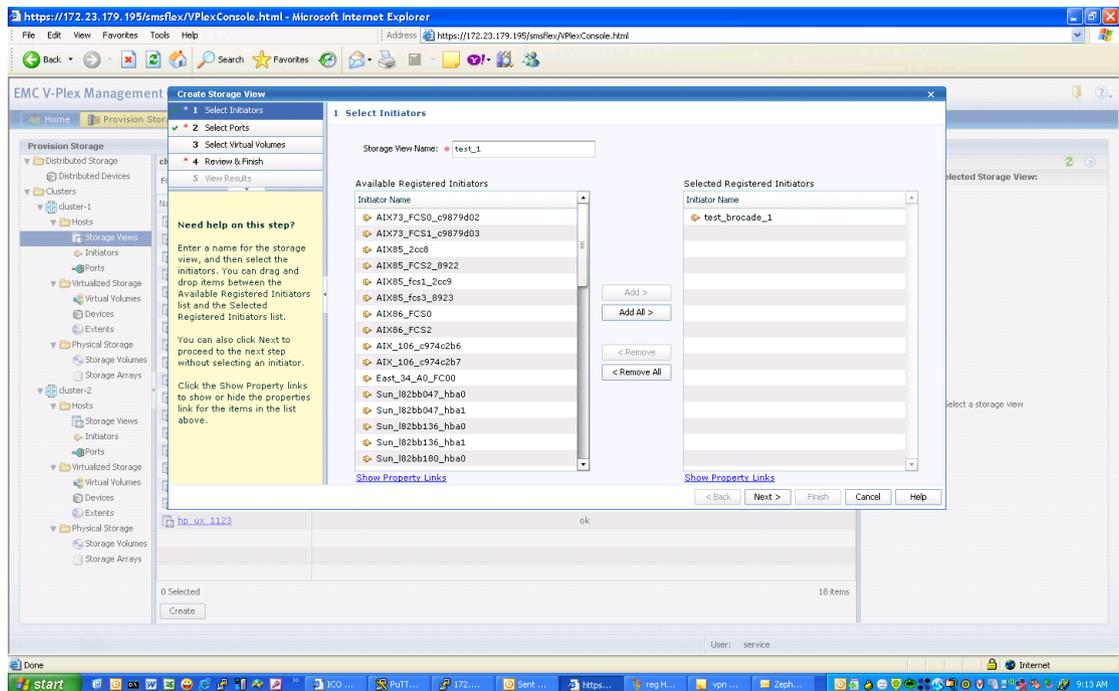

Figure 18 Create storage view
1. Creating a storage view, as shown in Figure 18.